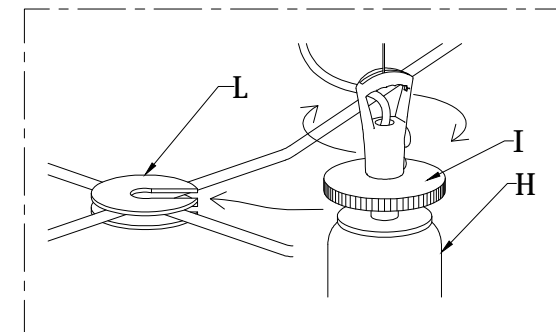

Fig.3
- E' possibile rimuovere il paralume(L) , svitando la ghiera (I). ( Fig. 3).
- It is possible to remove the lampshade (L) by unscrewing the particular (I) (Fig. 3).